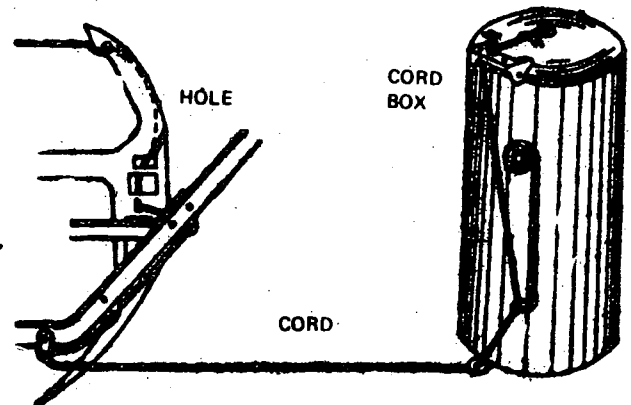

Fig. 1
- a) Place the twine following the path from the box to the needle (each side separately (Fig. 1).